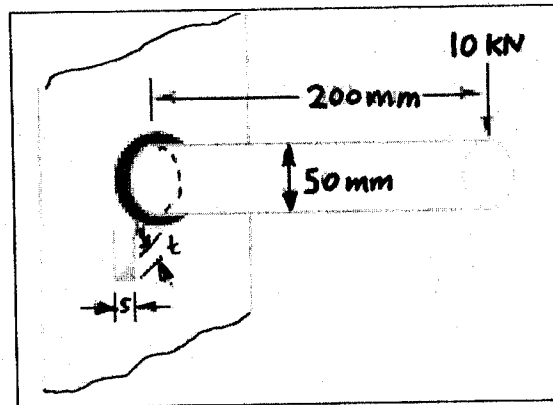

Fig.1
- v. A 50 mm diameter solid shaft is welded to a flat plate as shown in Fig.1. If the size of the weld is 15 mm, find the maximum normal and shear stress in the weld.